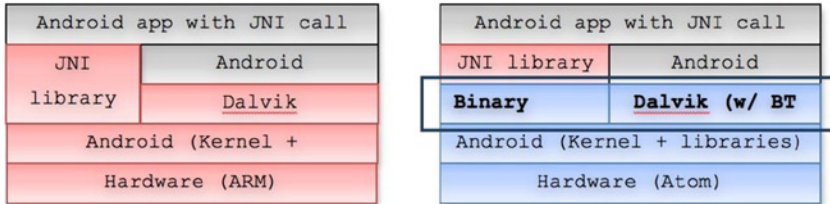

Figure 5-4. Binary Translation
Intel and Google have worked together to ensure native application execution on Intel Atom platform “as-is” without porting efforts. Intel provides Binary Translation (BT) that translates ARM code to x86 code on-the-fly during execution, as shown in Figure 5-4.
This translation mitigates the inconvenience of JNI libraries and NDK applications that have not yet been ported to x86. It allows the device to expose itself as supporting two applications binary interfaces (ABIs): x86 and ARMv5. This could be observed from the **build.prop**, as shown in Figure 5-4.